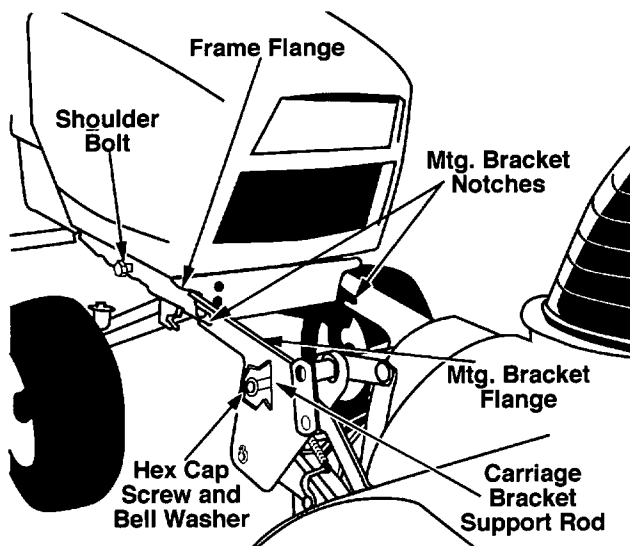

Figure 13
1. Position the front of the tractor directly behind the snow thrower assembly as shown in Figure 13. Using the hydraulic lift or manual lift handle, place the tractor lift arms in their lowest position.
2. Loosen, but do not remove, the hex cap screw and bell washer that secures each end of the carriage bracket support rod to the mounting brackets of the snow thrower assembly. See Figure 13.
3. Working from the left side of the tractor, tip the snow thrower slightly forward by lifting upward on the chute crank support tube, and lift upward on the snow thrower lift arm assembly until the flanges of the snow thrower mounting brackets align (are parallel) with the flanges of the tractor frame. See Figure 13.
4. Slide the snow thrower assembly rearward until the mounting bracket notches slip over the shoulder bolts on the tractor, and the carriage bracket support rod snaps into the tractor quick attach brackets. See Figure 13.